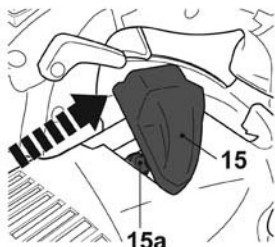

Fig. 22
> Disconnect the spark plug connector (15) (Fig. 22).